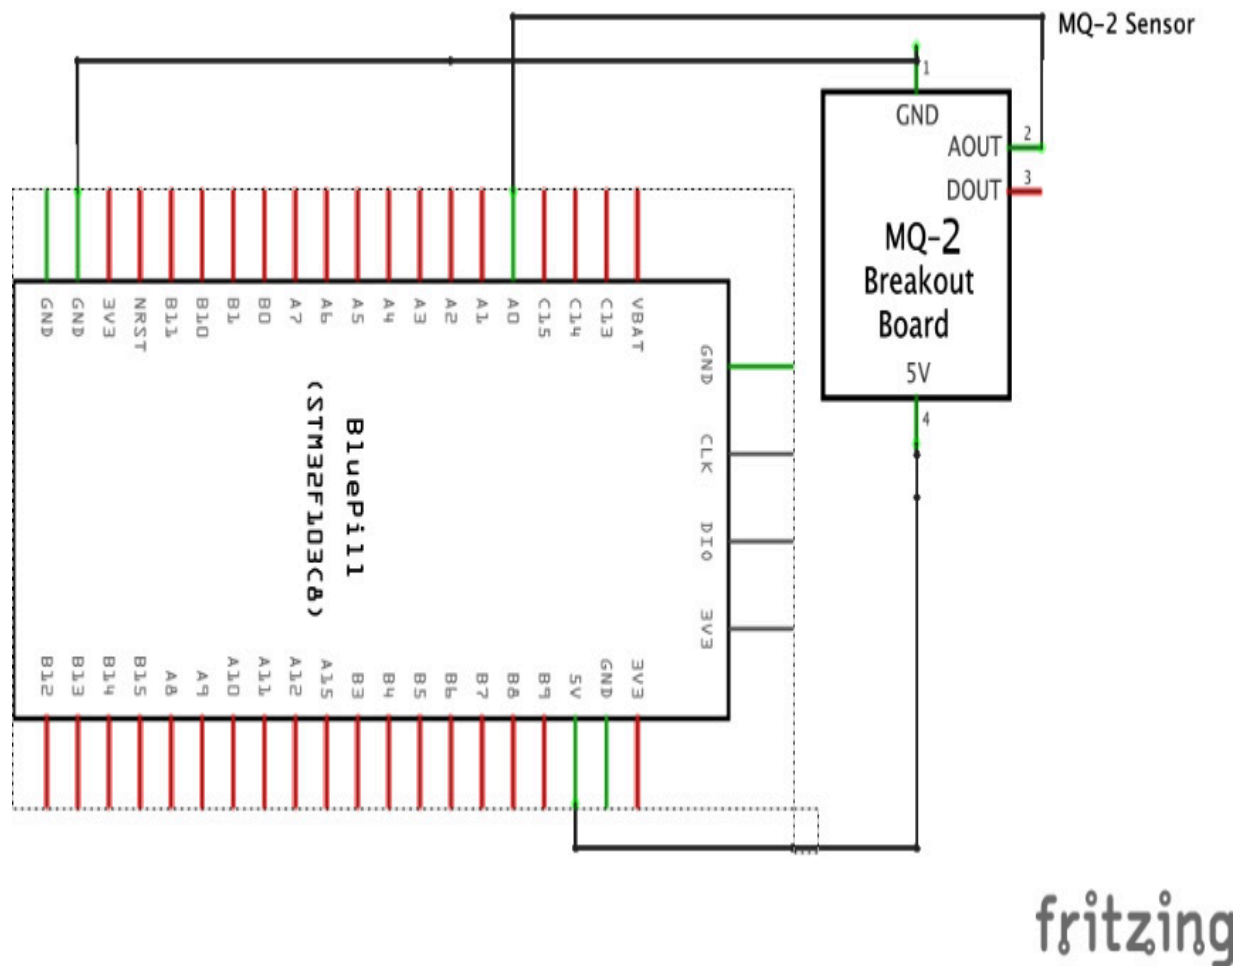

Figure 8.10 – Schematics for the MQ-2 sensor connection for analog reading
*Figure 8.10* presents the schematics for the analog reading device: